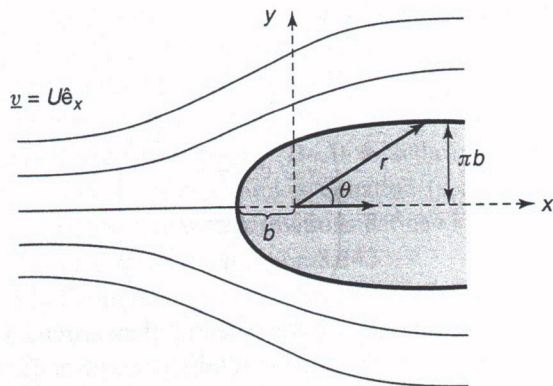

Figure 8.61
29. The velocity field for uniform upstream flow $\underline{v} = U\hat{e}_x$ flowing in potential flow around an obstacle called a Rankine half-body is sketched in Figure 8.61. The shape of the obstacle follows the equation $r_{\text{body}}(\theta)$ given here. What is the pressure field for this flow? You may neglect gravity. The quantities b and U are constants. Plot the results for a half-body with $b = 1.0$ m and